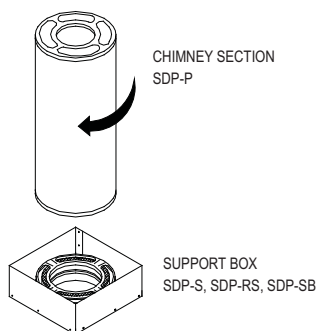

Figure 11
7. Assemble Chimney Sections: Lower and seat the female end of the first Chimney Section in the Support Box. **(Figure 11)**. It will twist-lock onto the male end of a Low Profile Starter Section, which is a component of the Support Box. Turn Pipe Sections clockwise, firmly to lock them together. Sheet metal screws may be used to reinforce the connection, however they are not normally required. Screws are only acceptable in the outer liner.